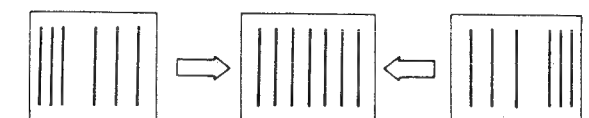

Fig. 29-11
2. Adjust H. WIDTH by turning DA board RV29 as shown in Fig. 29-11.